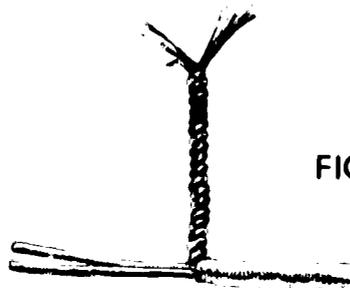

FIGURE 5
H. Braid as far as possible by hand (Figure 5)